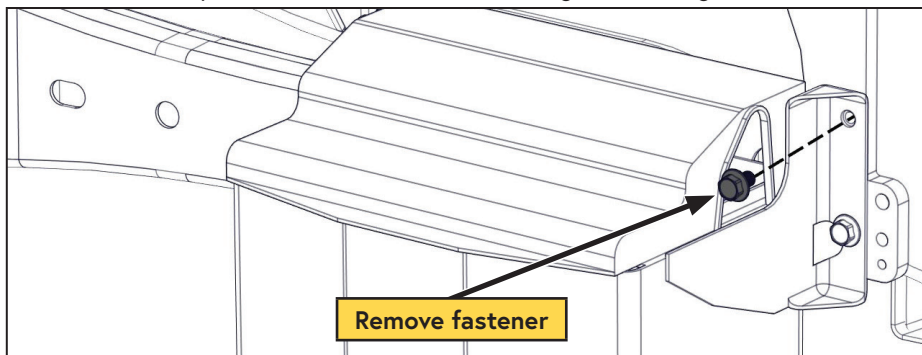

Figure 73 — Installing the battery box
- ☐ Remove the top rear fastener from the mounting bracket (Figure 73)